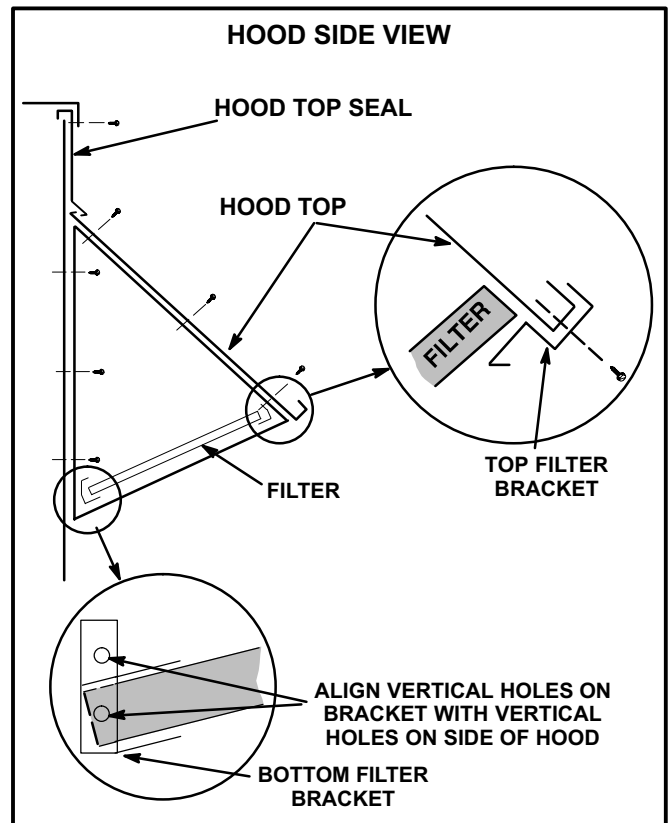

FIGURE 5
- 3- Align two holes on intake hood side panel with two holes on bottom (longer) filter bracket. See figure 5. Secure both sides of bottom filter bracket to hood sides with sheet metal screws.
- 6- Install top filter bracket as shown in figure 5. Secure with screws provided.